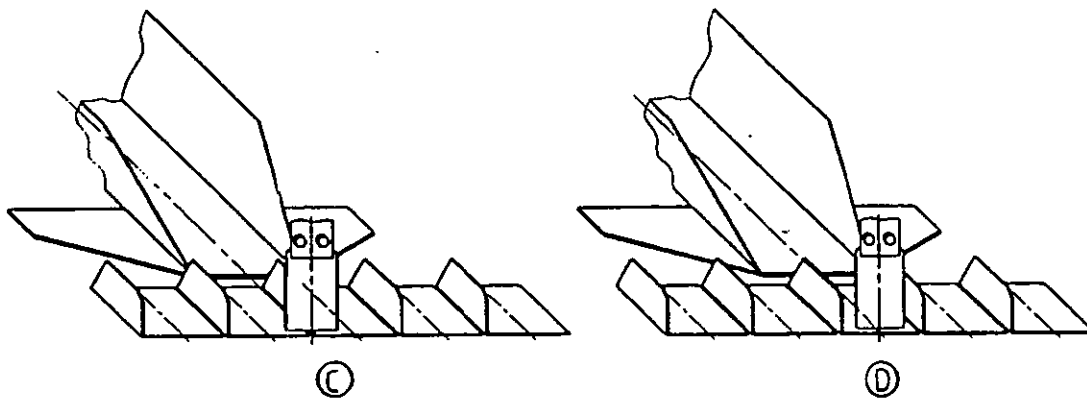

Fig 12
- Pull the pocket conveyor and place a pocket just in front of the register spade as shown, Fig. 12, Pos D.
- Press the JOG-button until one of the register spades is placed in front of the pocket conveyor, Fig. 12, Pos C.